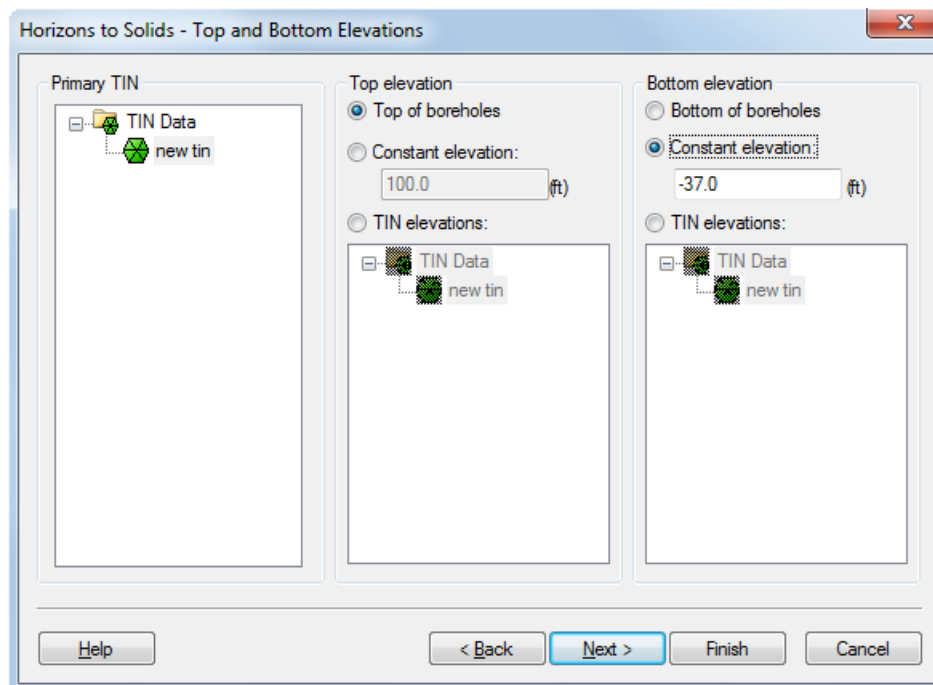

Figure 1 Horizons to Solids wizard
4. As seen in Figure 1, set the *Top elevation* to *Top of boreholes*. Under *Bottom elevation*, select *Constant Elevation* and set it as “-37.0.”